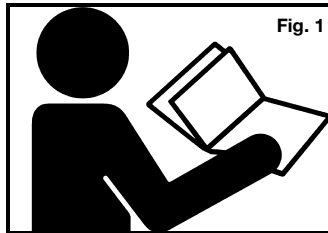

Fig. 1
**1. Read and understand tool labels and manual.** Failure to follow warnings could result in **DEATH** or **SERIOUS INJURY**. Fig. 1.